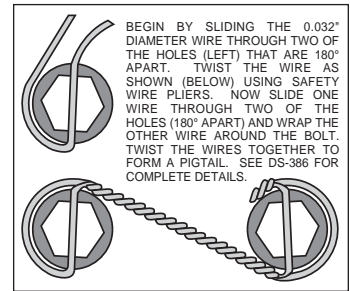

Figure 3. Safety Wire Diagram
- With the larger I.D. side of the rotor (3) facing away from the hat (4), bolt rotor (3) to hat (4) through the backside of the rotor using washers (5) and bolts (6). Using an alternating sequence, apply red *Loctite*® 271 to the threads and torque bolts to 155 **in-lb**. For an added measure of security, the bolts may be safety wired using standard 0.032 inch diameter stainless steel safety wire as shown in Figure 3. Please refer to Wilwood's data sheet DS-386 (available at [www.wilwood.com/Pdf/DataSheets/ds386.pdf](http://www.wilwood.com/Pdf/DataSheets/ds386.pdf)) for complete safety wire installation instructions.